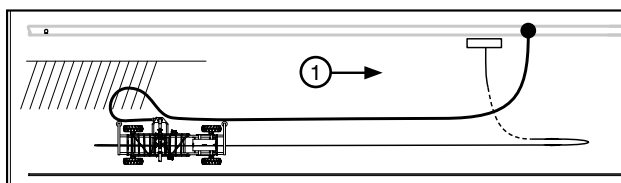

Figure 50-4 1. Direction of Travel
- (c) After the side inlet has pivoted completely the hose is being pulled by the side inlet and guided by either the side walls of the cart tires or the optional hose bumpers. See Figure 50-4.